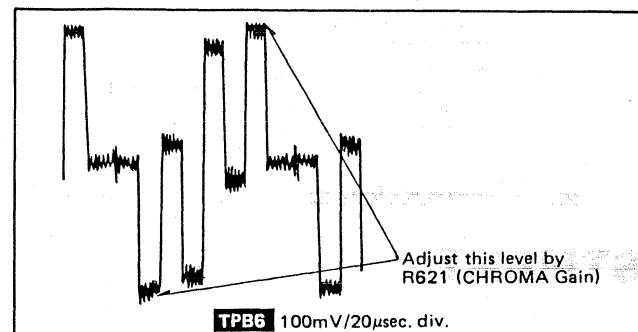

Fig. 10
- Chroma control (R5804) . . . Step ① → ②
7. Adjust R621 (Chroma Gain) so that the waveform at this point of time becomes equal to that recorded in Step 5 as shown in Fig. 10.